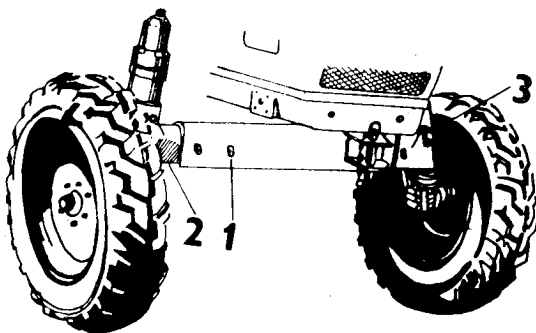

Fig. 15
Change of the Front Wheel Track (Fig. 15)
2. Unscrew nuts (Fig. 15/1) from bolts of the front axle extensions and remove the bolts.
4. Pull out a little both extensions (Fig. 15/2) until the required track is obtained and lock them again with bolts and nuts.
1. Unscrew the screws from the covering lids situated on the extensions body and remove the lids (Fig. 15/3).